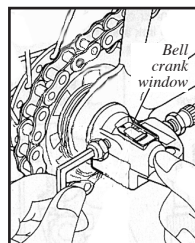

Figure 24- Three-speed bell crank
2. Align the indicator on the bell crank window with the line on the push rod (Figure 24).